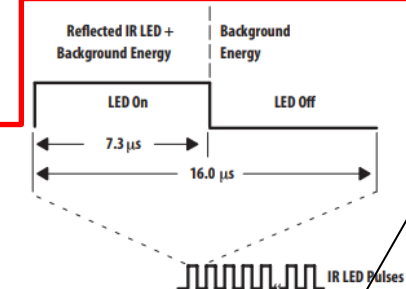

Figure 9. Proximity LED Current Driver Waveform
②図9は、LEDオンパルスの幅は 7.3 μ s に固定され、周期は 16.0 μ s です。そこで、近接駆動電流の設定に加えて、1~255 個の近接パルス (PPULSE) をプログラムで設定できます。近接パルスの数を決定するときは、信号はPPULSE に比例して増加しますが、ノイズは PPULSE の平方根で増加します。
Referring to the Detailed State Machine figure, the LED current driver pulses the IR LED as shown in Figure 9 during the Prox Accum state. Figure 9 also illustrates that the LED On pulse has a fixed width of 7.3 μ s and period of 16.0 μ s. So, in addition to setting the proximity drive current, 1 to 255 proximity pulses (PPULSE) can be programmed. When deciding on the number of proximity pulses, keep in mind that the signal increases proportionally to PPULSE, while noise increases by the square root of PPULSE.
Referring again to Figure 9, the reflected IR LED and the background energy is integrated during the LED On time, then during the LED Off time, the integrated background energy is subtracted from the LED On time energy, leaving the IR LED energy to accumulate from pulse to pulse. The proximity gain (PGAIN) determines the integration rate, which can be programmed to 1 \times , 2 \times , 4 \times , or 8 \times gain. At power up, PGAIN defaults to 1 \times gain, which is recommended for most applications. For reference, PGAIN equal to 4 \times is comparable to the APDS-9900's 1 \times gain setting. During LED On time integration, the proximity saturation bit in the Status register (0x13) will be set if the integrator saturates. This condition can occur if the proximity gain is set too high for the lighting conditions, such as in the presence of bright sunlight. Once asserted, PSAT will remain set until a special function proximity interrupt clear command is received from the host (see command register).